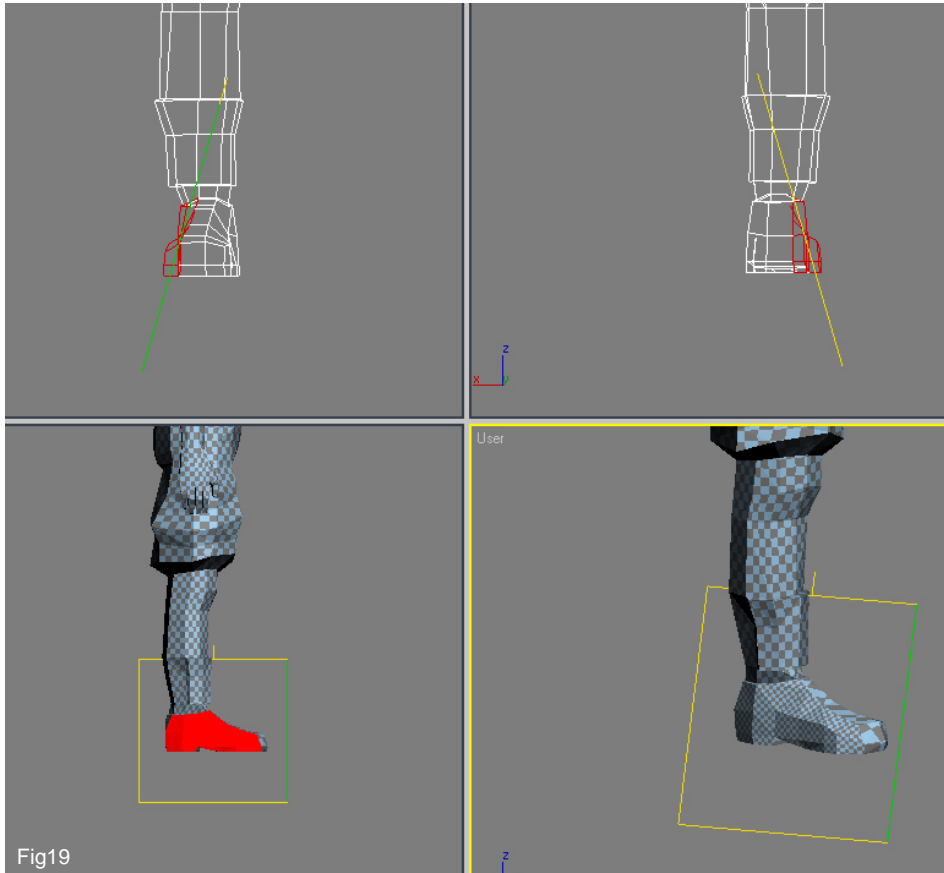

Fig19
19. You can follow the same procedure with the lower leg using a cylindrical map and then transforming the verts in the Edit UVWs window to refine the mapping. With regard to the feet simply apply a planar map from the left and right sides as seen in Fig 19. You can see in the top views that the gizmo has been rotated to better align it with the general direction of the polygons.